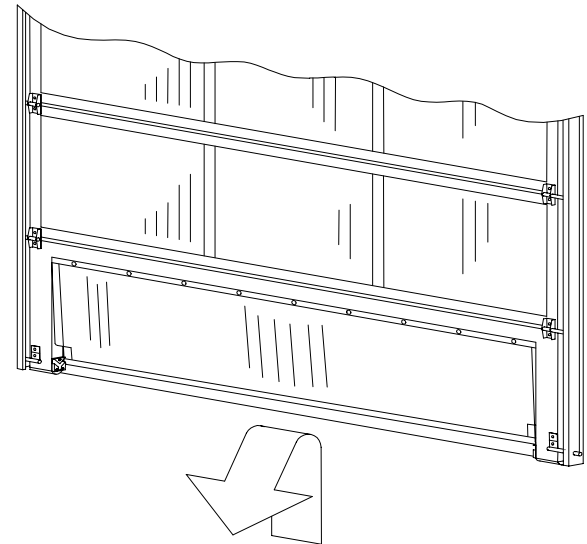

FIG. 5B
- Lift panel so that Retaining Posts reach slots in Retaining Blocks (Figure 5b).